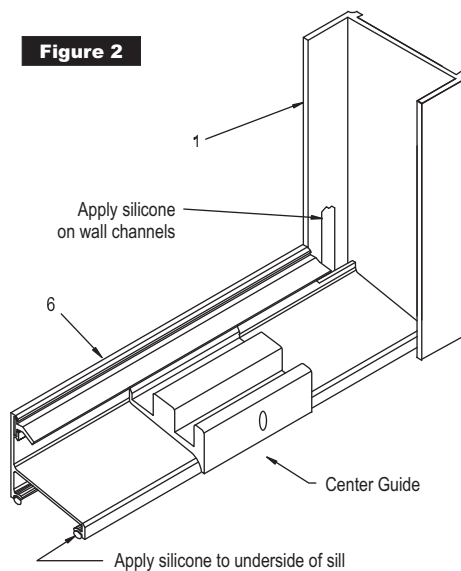

Figure 2
1. Set wall jambs (1) in place on walls, centering bottom of jambs on rim of tub. Hold plumb and mark walls for screw holes.
2. Remove and drill 3/16" diameter holes in walls (use a carbide tipped drill bit for tile walls). Insert plastic wall anchors (2) into holes. Silicone where the wall meets the rim of the tub to seal the bottom of jamb. On the shower head side of enclosure, secure door center bumper (4) and bottom bumper (4a) with #8 x 1-1/4" screws (3) and top of wall jamb with another #8 x 1-1/4" screw (3). On the other side, secure door center bumper (4) with a #8 x 1-1/4" screws (3) and top and bottom of wall jamb with two more #8 x 1-1/4" screws (3). **NOTE: Glass panels close into the recessed portion of the bumpers. The recess is toward the inside of the tub on the shower head side, and towards the outside on the other jamb.**
3. Cut sill (6) to fit opening between jambs. Run a bead of silicone full length to the underside of sill (See Figure 2) and apply silicone to inside of jamb where jamb meets tub. On inside of jamb, run a 1/4" bead of silicone 1-1/4" up the outside leg of each wall jamb (see Figure 2). Set sill in place and press firmly to rim of tub. Wipe off any excess silicone before curing. Use tape to hold in place until silicone has set.
4. Cut header (8) 1/32" to 1/16" less than opening width and set in place.
5. To set slider glass in place hold inside slider panel inside of tub or shower pan, insert rollers up into header and lower into place. The inside slider glass has only one hole for the inside pull (10) and will close against the wall jamb on the shower head side. Next, insert lower end of outside slider in front of inside slider by pushing lower ends far enough in to allow clearance on inside edge of tub or pan. Avoid roller bracket to roller bracket contact while lifting panel into place. The outside slider will close against the jamb opposite the shower head.
6. Place center guide (7) in the middle of the sill (see Figure 2). Make sure the center guide is hooked into position on the sill. Attach center guide with #6 x 3/8" screw (14).
8. To install towel bar (9), first attach bases of recessed finger pulls (11b) to the towel bar (9). Place nylon towel bar insert sleeves (13) into the holes in the glass (17). Next, hold the towel bar (9) against the hole in the glass with the recessed finger pull washer (12) between the glass and the towel bar. Place a recessed finger pull washer (12) on the recessed finger